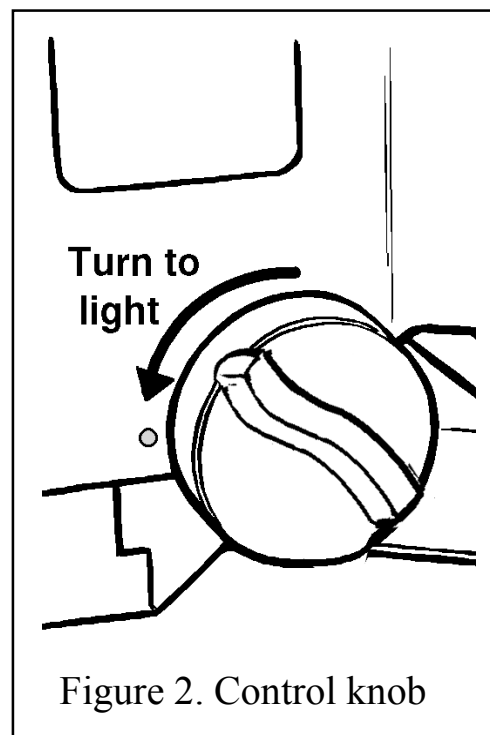

Figure 2. Control knob
- ▶ Depress the control knob and turn anticlockwise towards the PILOT/IGN position (See figure 2). A spark should be generated at the pilot while turning. The spark should ignite the pilot. The pilot flame can be seen below coal at the front left side.